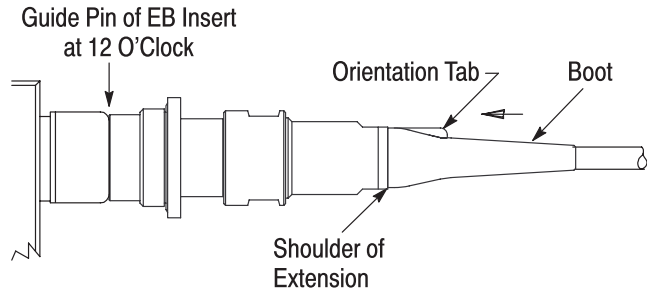

Figure 16
25. Slide the boot over the cone of the extension until it is tight against the shoulder of the extension. Immediately rotate the boot so that the orientation tab is aligned with a desired reference point (using the guide pin of the EB insert is recommended; facing the bench-mount fixture assembly, the guide pin is positioned at 12 o'clock). See Figure 16.